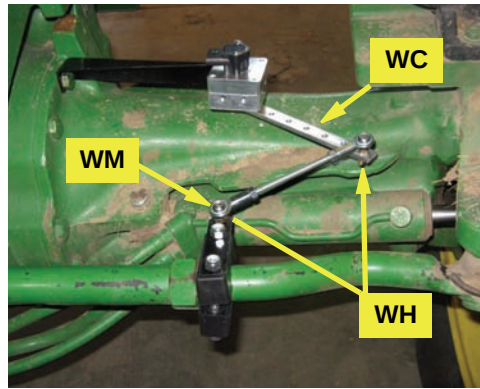

Figure 2d: WAS linkage rod connected
- d. Using the remaining hardware **WH**, install the assembled WAS linkage from step 1d between the rod bracket **WM** and the last hole in the WAS connector arm **WC**. Install the linkage with the swivel studs downwards but leave the swivel stud nuts **WH** loose (Figure 2d).